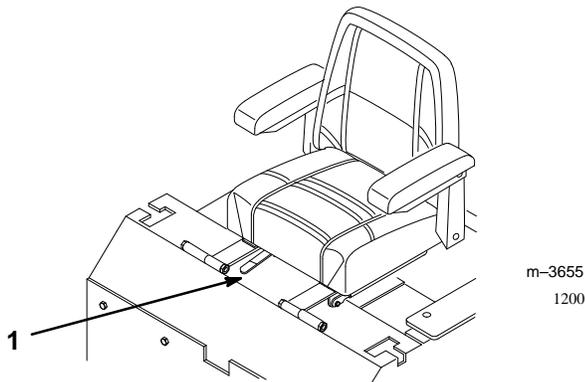

Figure 15
1. To adjust, move the lever sideways to unlock seat (Fig. 15).